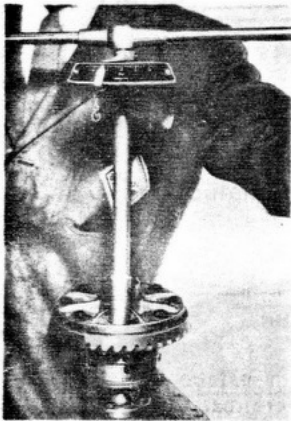

Fig. 16
3. Fit crown-wheel and secure with screws No. 000 991 41 00, tightening down crosswise to a torque of 52 ft/lb (7.2 m/kg). Lock the screws with wire (Fig. 16).